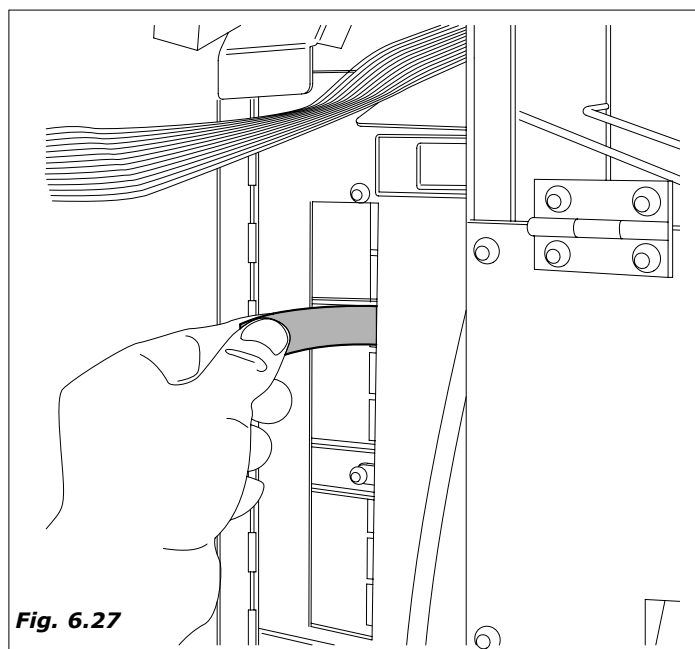

Fig. 6.27
- insert the plate according to the order and the selections used by the distributor (Fig. 6.27)